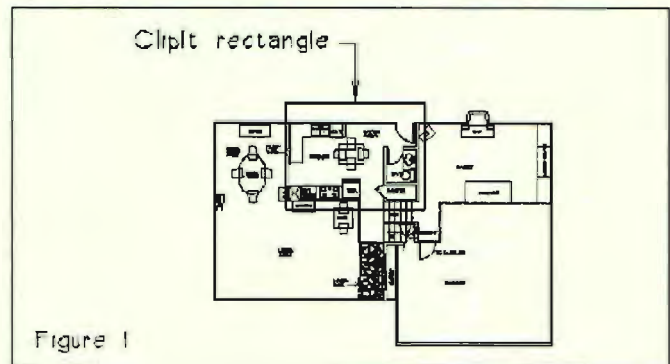

Figure 1
8. Pick to define the first point of your area. Now when you drag your cursor, you will notice you are drawing a rectangle. This will be the Clip area once you define your second pick. Move the rectangle until it surrounds the entire area you want, then pick again. For example, if you are detailing a kitchen, pick two points that will define a rectangle around the kitchen, as shown in Figure 1.